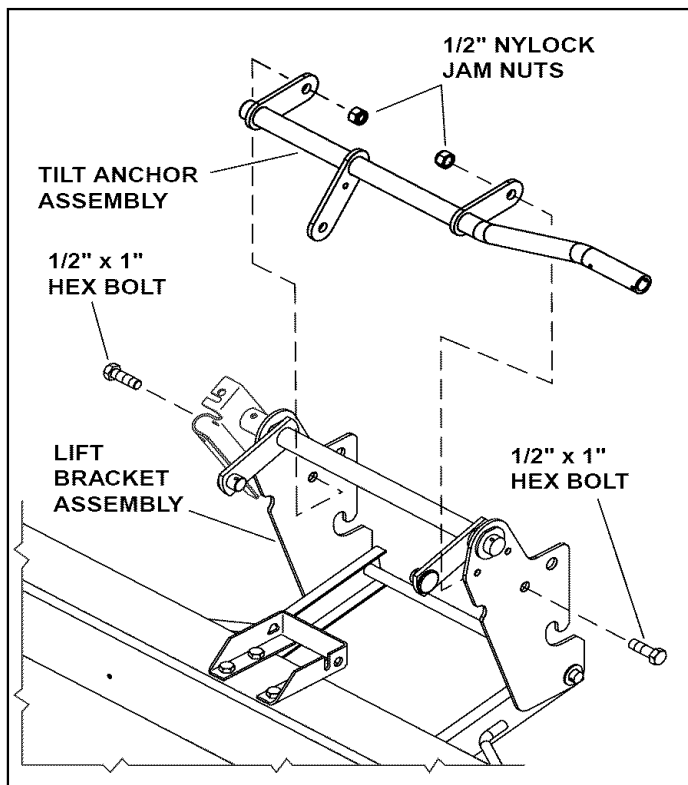

FIGURE 4
- Assemble the tilt anchor assembly to the lift bracket assembly using two 1/2" x 1" hex bolts and nylock jam nuts. **Tighten.** See figure 4.